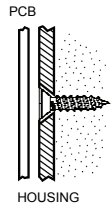

Figure B.4: Mounting Screw Position
9. Mount the back cover using two screws and replace the PCB. Use ISO 7050 (ST3.5 x 22) or similar countersunk screws so that the screw head will not touch the PCB – see Figure B.4.
10. Mount the back cover to the wall using two screws and replace the PCB. Use ISO 7050 (ST3.5 x 22) or similar countersunk screws so that the screw head will not touch the PCB – see Figure B.4.